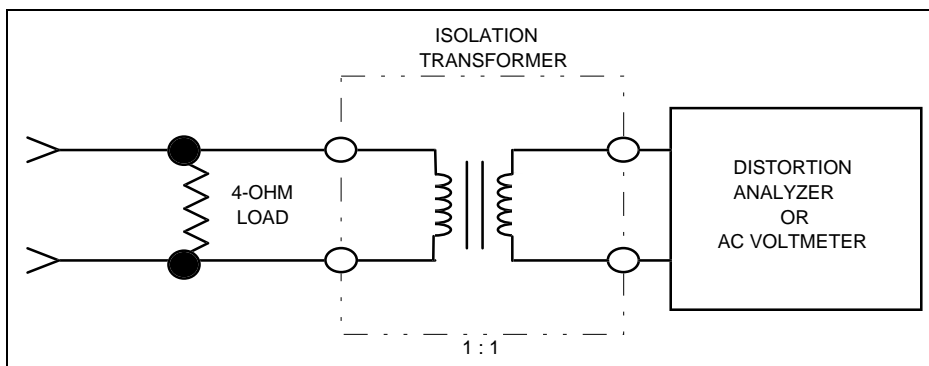

Figure 3 - Audio Isolation Transformer
2. Connect a 4-ohm, 25-watt resistor in place of the speaker. Connect the isolation transformer input across the resistor. Connect the isolation transformer output to the Distortion Analyzer (see Figure 3).